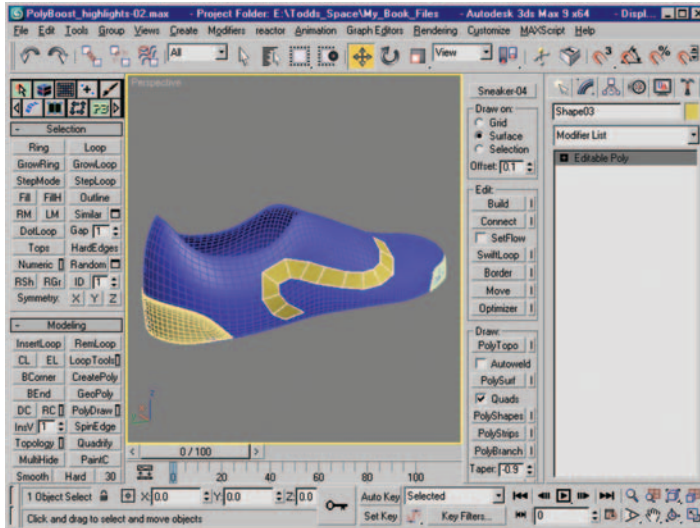

Figure 12.39 Mesh created by drawing with the PolyTopo tool, seen in yellow.
- Once you have finished laying out the lines, right-click to finish the operation and exit the PolyTopo tool. Figure 12.39 shows the resulting stripe on the sneaker's surface.